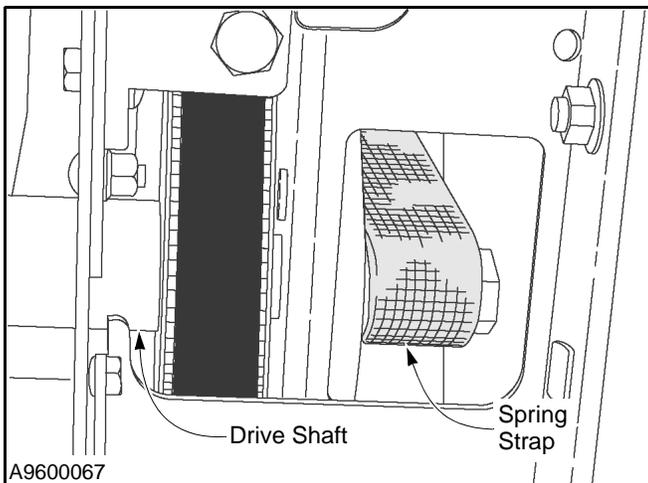

Figure 60
- Then remove the steel plate and all associated hardware used to clamp the strap to the shaft. Save all hardware. (See Figure 60.)